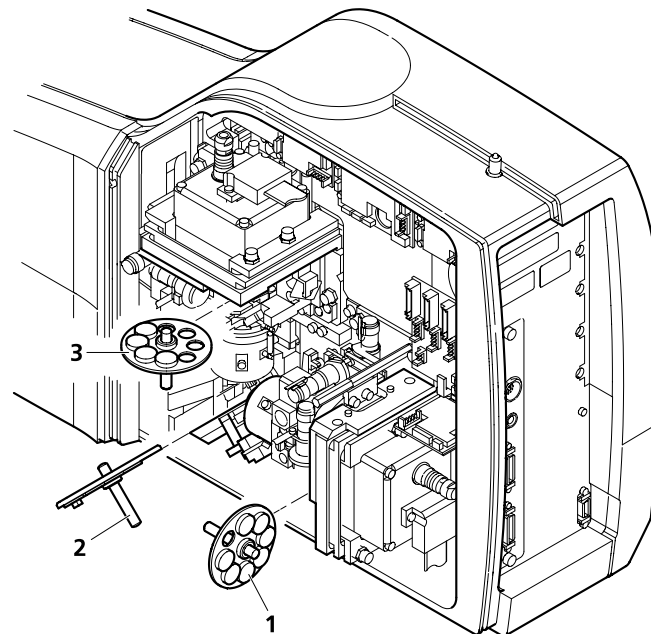

Fig. 7-5 Change-over of the filter-wheels
- Pull the filter-wheels carefully out of the appropriate guide well, see Fig. 7-5: